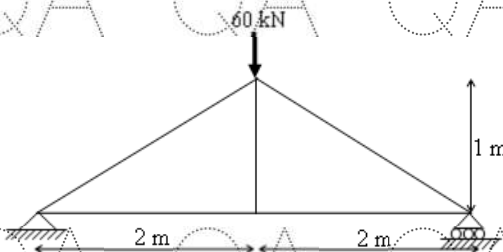

Figure.7
9. Using flexibility method, analyse the pin-jointed plane frame supported and loaded as shown in Figure.7. [10]